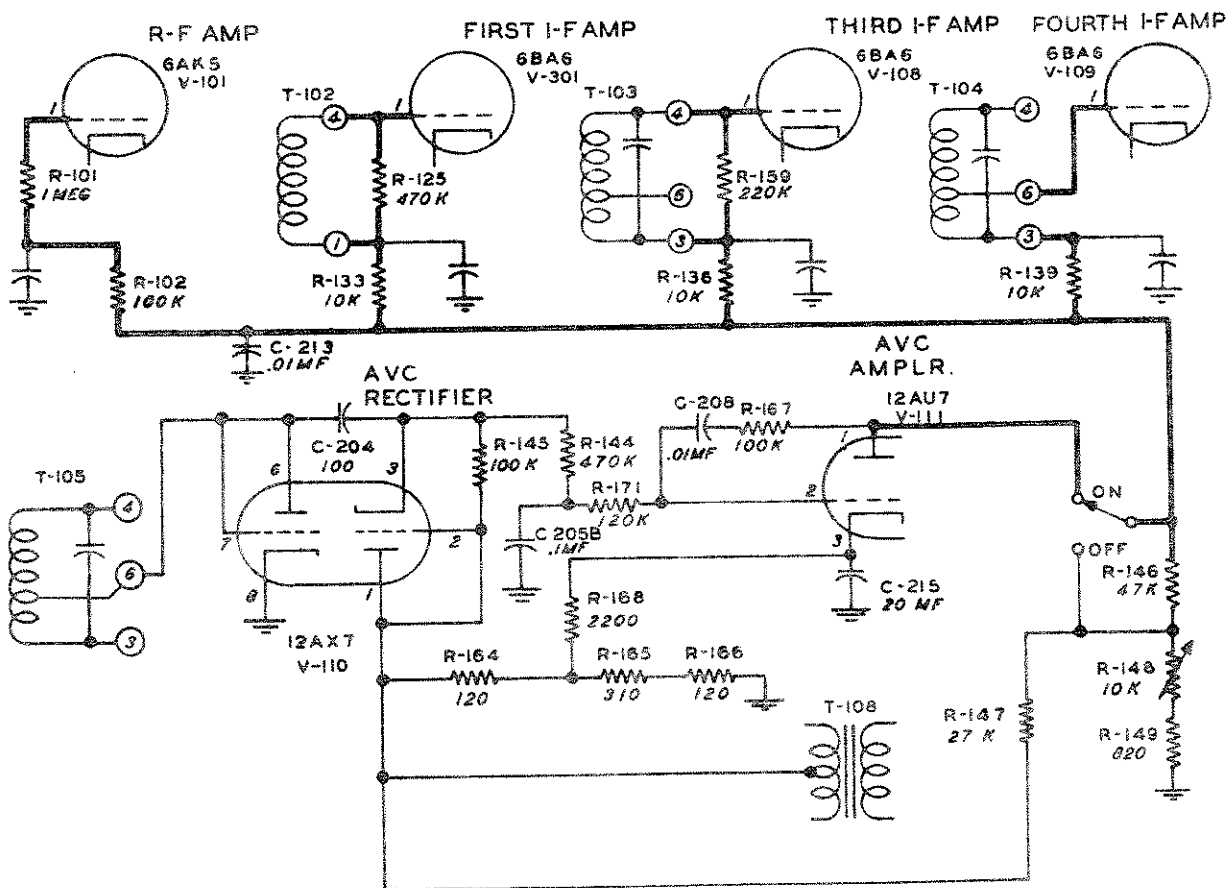

Figure 4-8. 51J-4 A.V.C. Circuit
4.2.11. AUTOMATIC VOLUME CONTROL. - The problem of blocking that is created by strong signals or heavy static is eliminated by use of an amplified AVC system and a low impedance AVC line. Refer to figure 4-8. The second triode section of V110 is used as an AVC rectifier to produce control voltage for the AVC amplifier which uses one half of dual triode V111. The AVC voltage that is applied to grids of the controlled tubes is produced when plate current flowing through one-half of AVC amplifier tube V111 causes a voltage drop across resistor R146. Plate voltage for the amplifier half of V111 is obtained from the voltage drop across resistors R165 and R166, which are in series with the center tap of the power transformer to ground. However, V111 will not draw plate current when there is no signal input to the receiver because of approximately 11 volts of bias that is placed upon its grid by the voltage drop through R164. This bias voltage for V111 is taken from the end of R145 through which the rectified carrier flows in opposition to the bias voltage. Thus, when the rectified carrier becomes strong enough to overcome the bias voltage on V111, V111 will draw plate current and produce a voltage drop across R146, thereby producing AVC voltage in proportion to the strength of the received signal. The bias on the grid of V111 is high enough to produce a delay in the generation of AVC voltage and thus allows the receiver to function at full sensitivity on weak signals. Resistor R144 and capacitor C205B form the time constant in the AVC circuit. R171, C208, and R167 are used in a degenerative circuit to prevent the AVC amplifier tube from responding to low audio frequencies. AVC is turned off by opening the plate circuit of AVC amplifier tube V111. Tubes controlled by AVC bias include the r-f amplifier V101, and the 500 kc i-f amplifier tubes, V107, V108 and V109.